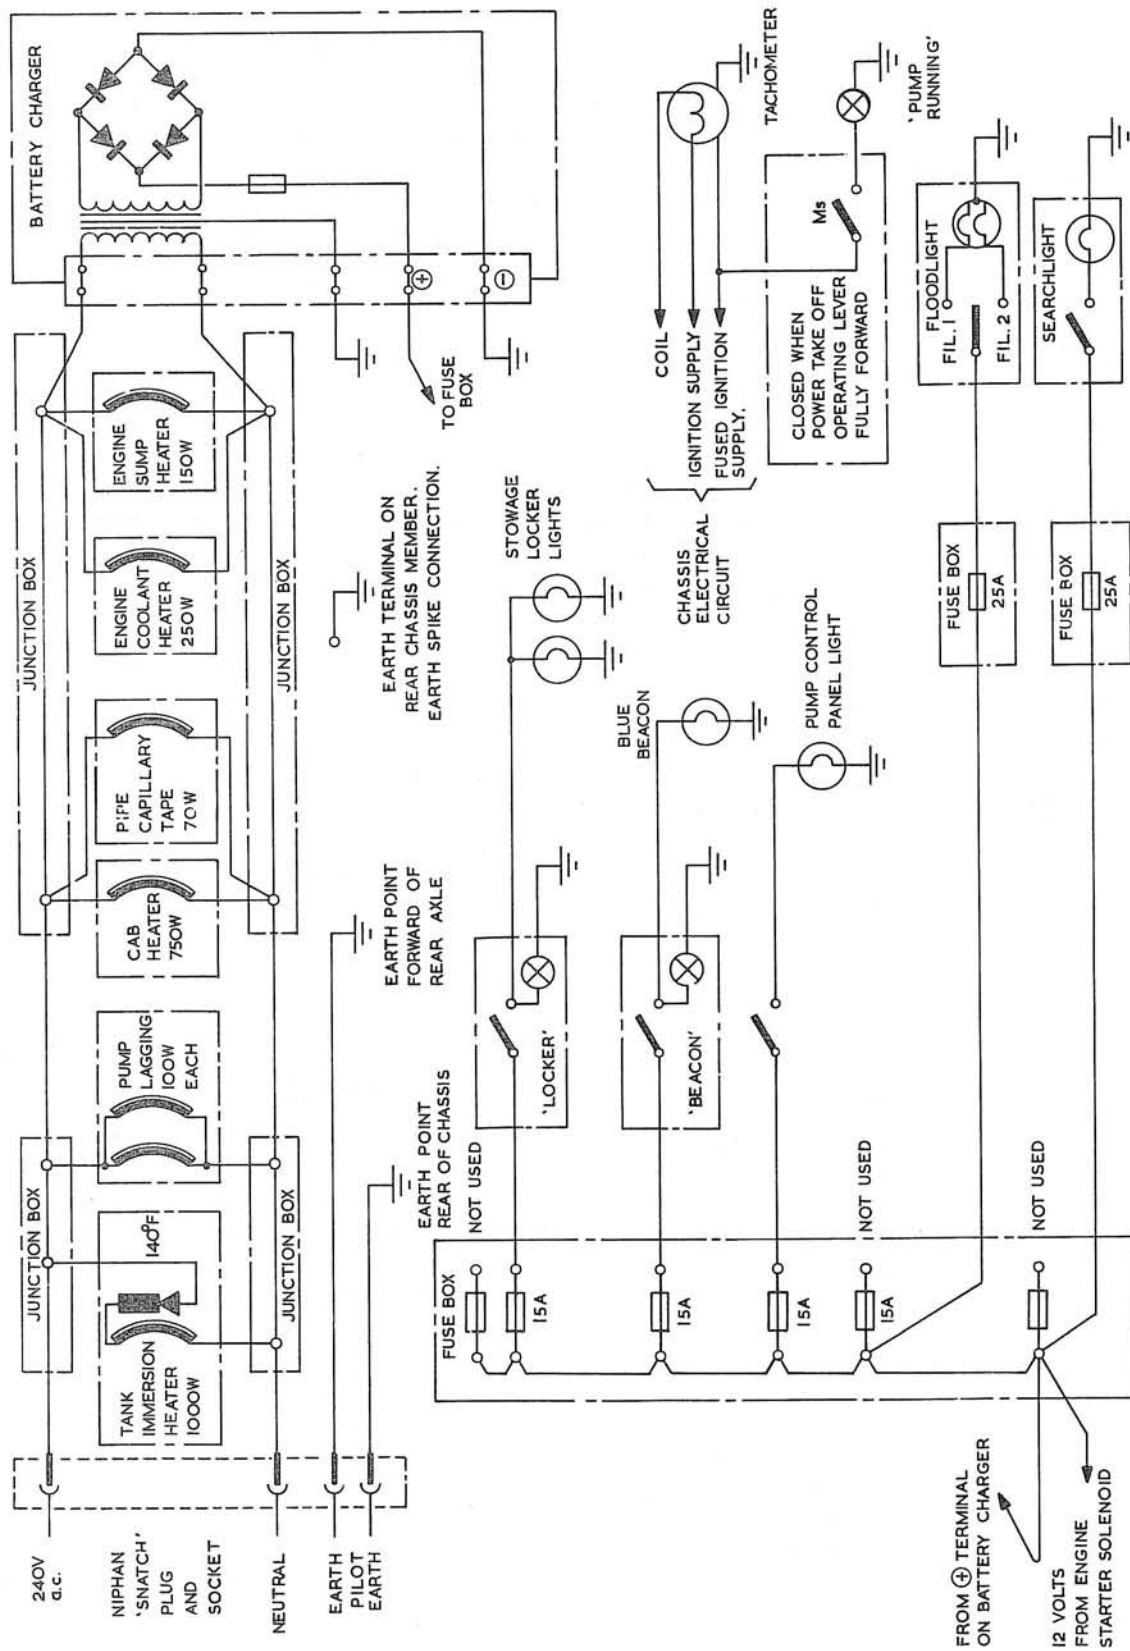

Fig.6. Equipment electrical circuit diagram
ELECTRICAL EQUIPMENT (fig.6)
37. The electrical equipment consists of those items connected to the chassis 12 volt electrical circuit and the heating elements and battery charger connected to the 240 volt a.c. mains supply plug. The 12 volt fuse boxes associated with the equipment are located on the right-hand side at the rear of the engine compartment. The wiring used for the a.c. circuit is enclosed in flexible metal conduit. A circuit diagram is shown in fig.6.